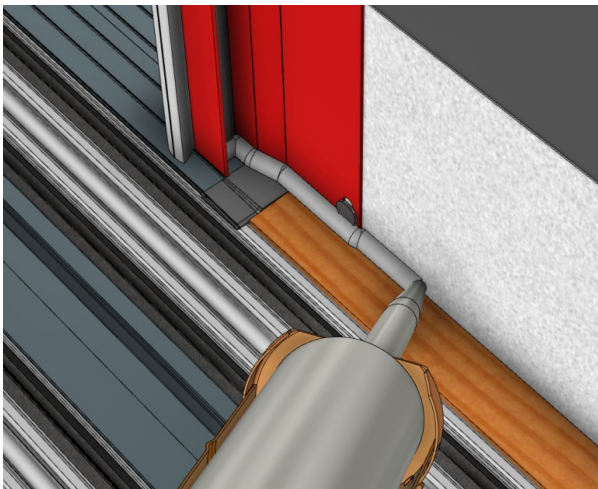

Fig PKT 10
- Apply sealant directly behind the pocketing interlock, continue to seal the entire front length of the sill (Fig. PKT 10).